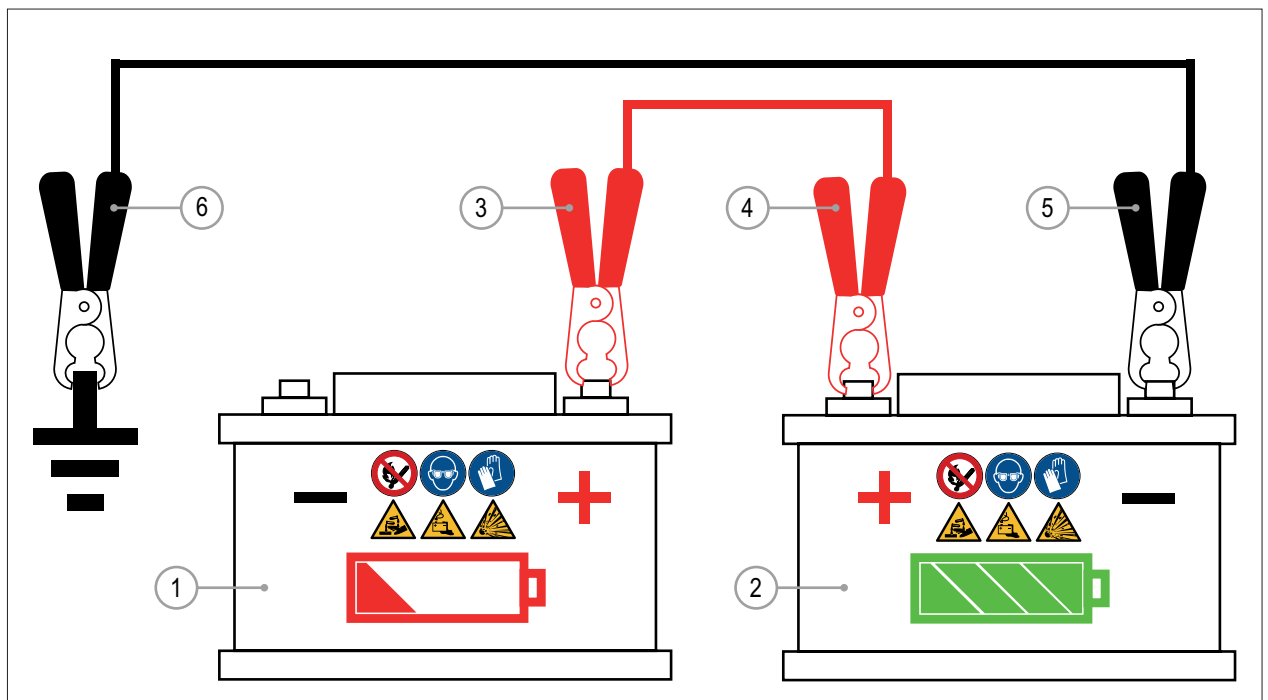

FIG. 36
If the machine battery (FIG. 36 - Rif. 1) is disabled it is possible to start the engine using an booster battery and the booster cables (FIG. 36 - Rif. 2) or a booster.
- 3) Connect positive (+) booster cable to disabled machine battery positive(+) post (FIG. 36 - Rif. 3). You can also connect it to the positive post of the starter motor (FIG. 42 - Rif. 4).
- 4) Connect other end of positive(+) booster cable to booster battery positive(+) post (FIG. 36 - Rif. 4).
- 5) Connect negative (-) booster cable to booster battery negative (-) post (FIG. 36 - Rif. 5).
- 6) Connect other end of negative (-) booster cable to a metal part of machine frame or engine, away from battery (FIG. 36 - Rif. 6).